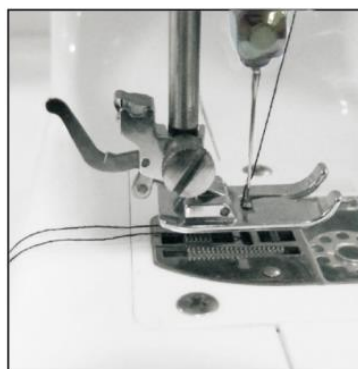

Fig.10
- 5) Replace the bobbin cover and separate the two threads and pull them to the back of the machine under the presser foot, leaving about 15cm hanging there. (Fig. 10)